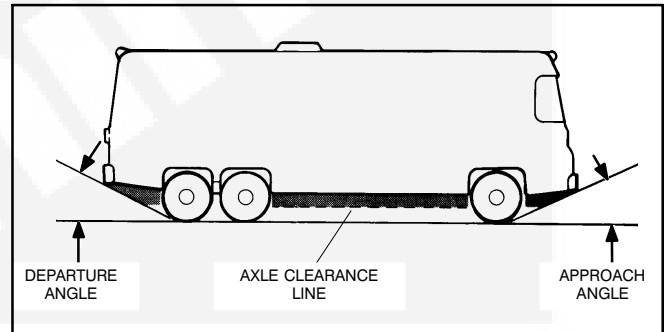

FIGURE 8-5. APPROACH AND DEPARTURE ANGLES AND AXLE CLEARANCE
5. To prevent damage to the tail pipe while the vehicle is moving, keep it out of the approach and departure angles and above the axle clearance line (Figure 8-5).